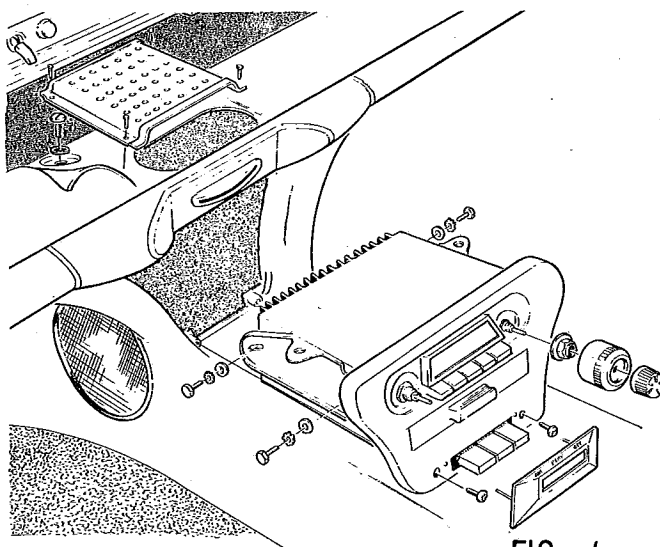

FIG. 4
2. Remove two screws which are covered by escutcheon. See Fig. 4.
4. Carefully pull back parcel tray trim to expose two fixing screws. See Fig. 4.
7. Assemble radio unit to panel as shown in Fig. 4.